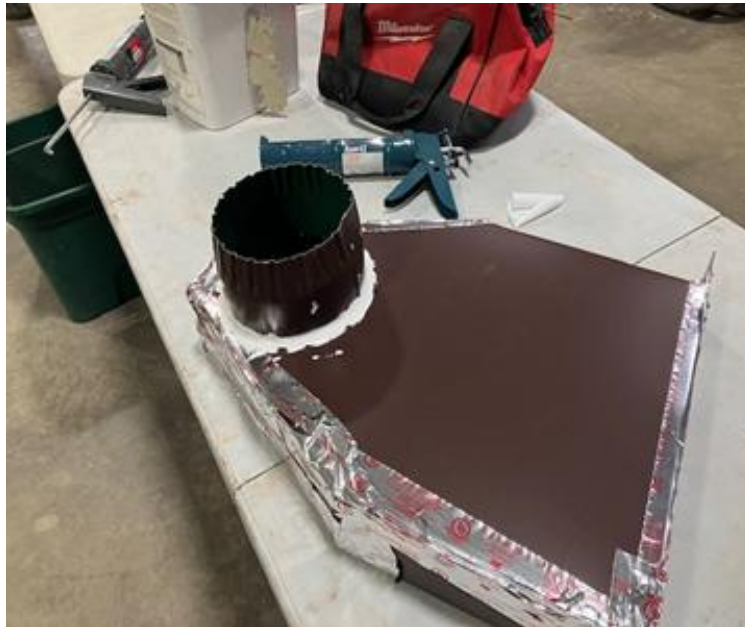

Figure C-19. Completed Plenum.
1. Tape all of the seams on the plenum with the metallized tape (see Figure C-19).
2. Caulk the area where the exhaust pipe meets the plenum body (see Figure C-19)
1. Verify exhaust pipe is properly crimped (see Figure C-19).
2. Verify that all seams and gaps are sealed with caulk or metallized tape (see Figure C-19)